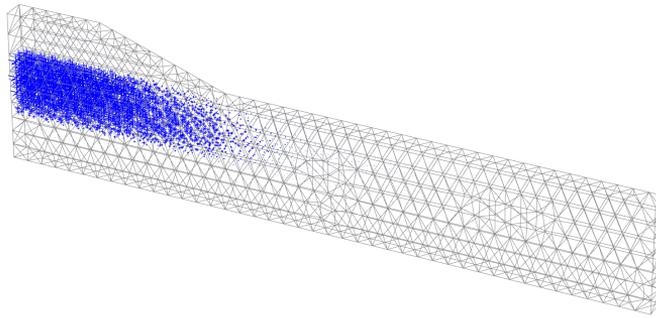

Figure 4.11 Excess pore pressures after undrained construction of embankment (Phase 3)
- ✕ Click the *Center principal directions*. The principal directions of excess pressures are displayed at the center of each soil element. The results are displayed in Figure 4.11. It is clear that the highest excess pore pressure occurs under the embankment centre.